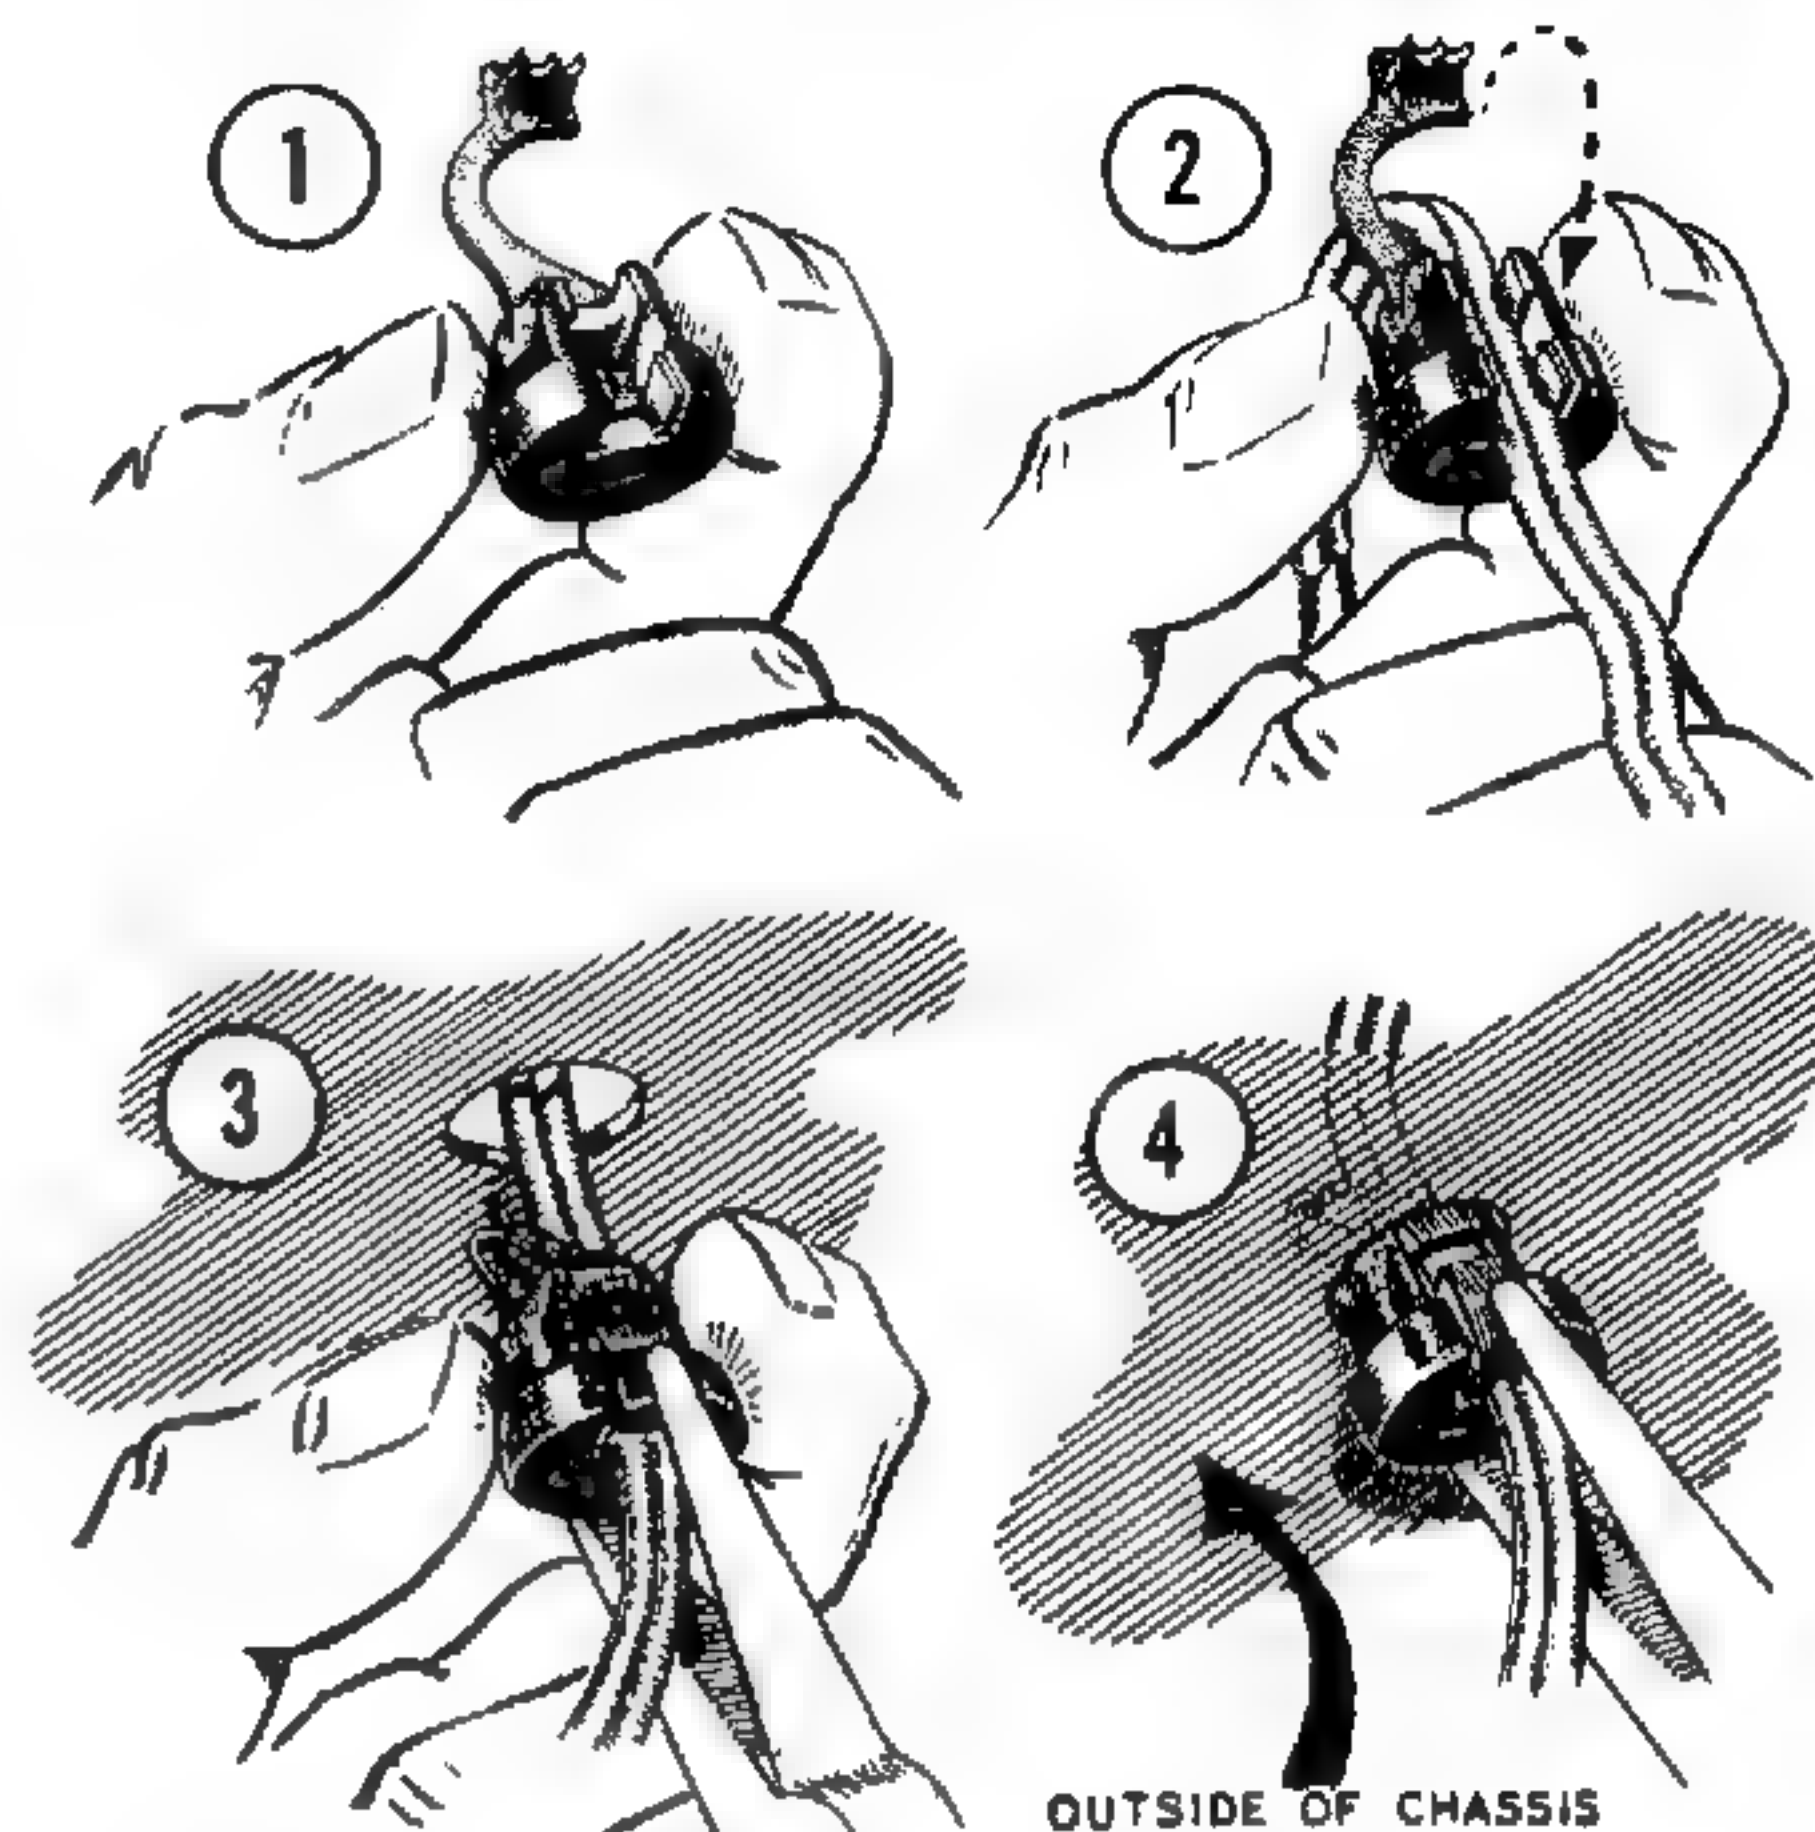

Figure 23
- ( ) Referring to Figure 23, mount the line cord and line cord strain relief in hole U. Leave 1-1/2" of wire inside the chassis.